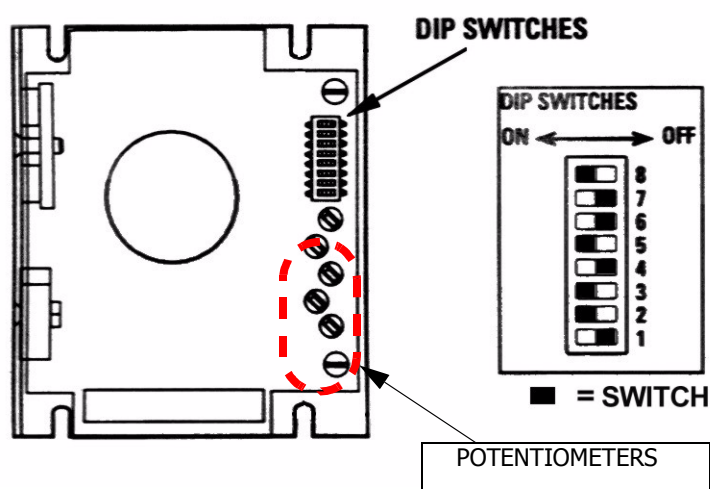

Figure 20. DC Motor Driver Board A2 Layout
5. Remove four (4) screws securing DC Motor Driver Board A2 to Board Mounting Bracket and remove board. Retain screws for re-assembly.
6. On replacement DC Motor Driver Board A2, verify that all five potentiometers are turned fully clockwise (see Figure 20).